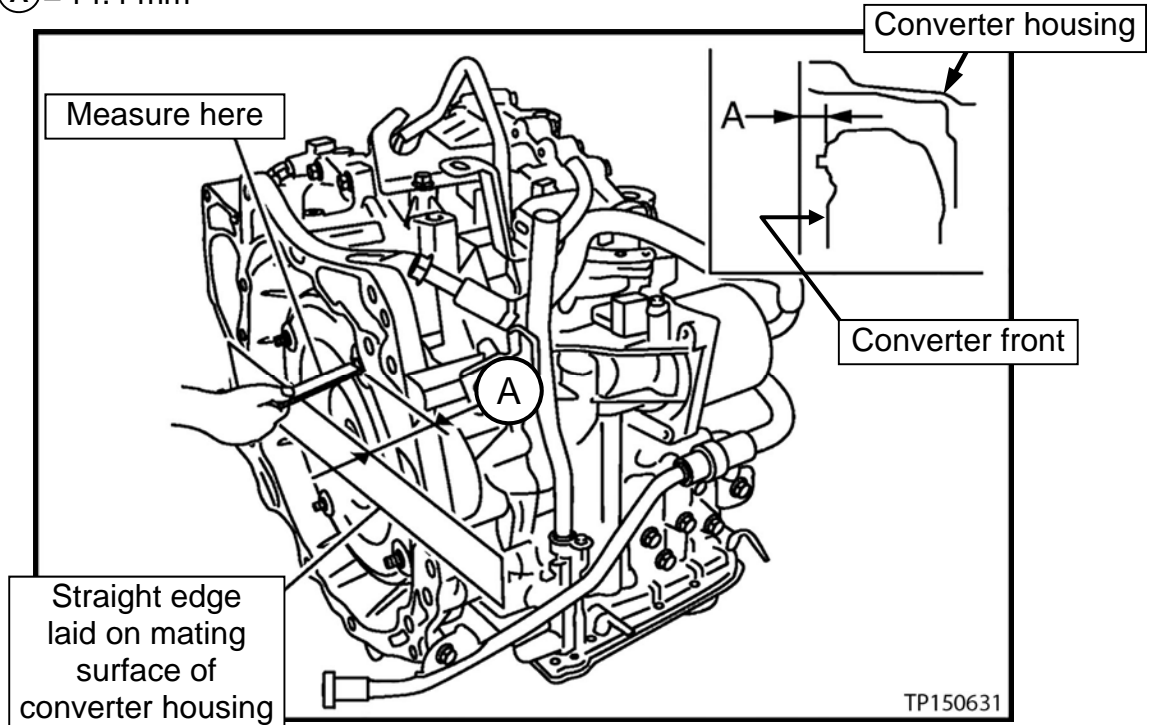

Figure 164
- Verify the torque converter is installed at the proper depth (see Figure 164).